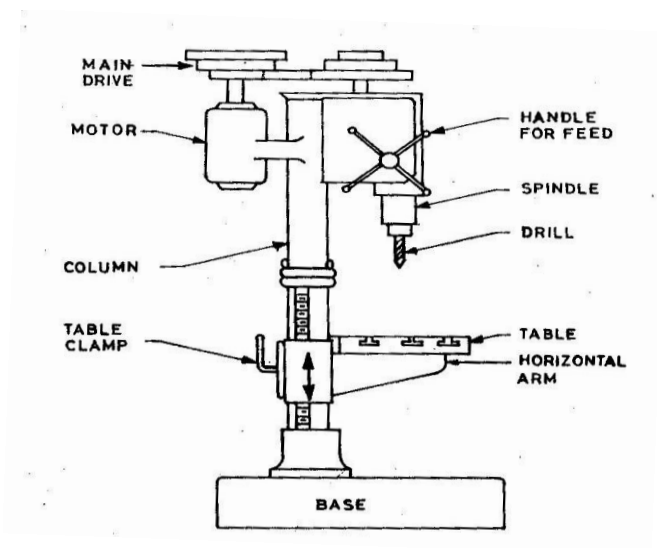

Fig.2 Up-Right Drilling Machine
- It specifically differs from sensitive drill in its weight, rigidity, application of power feed and wider range of spindle speed. Fig.2 shows the line sketch of up-right drilling machine.